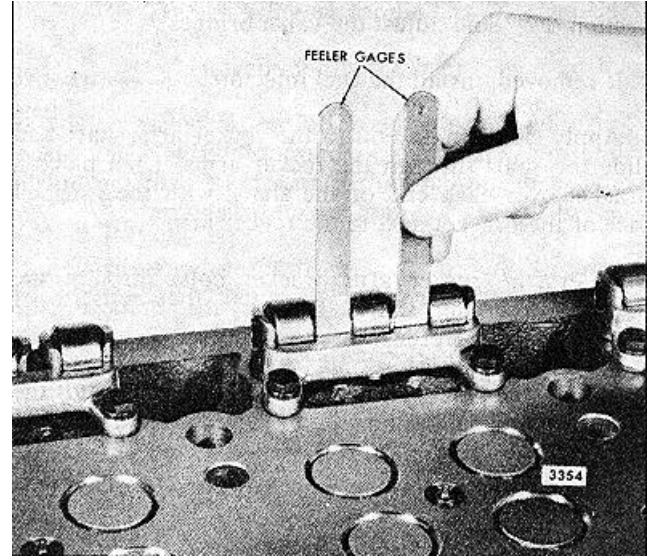
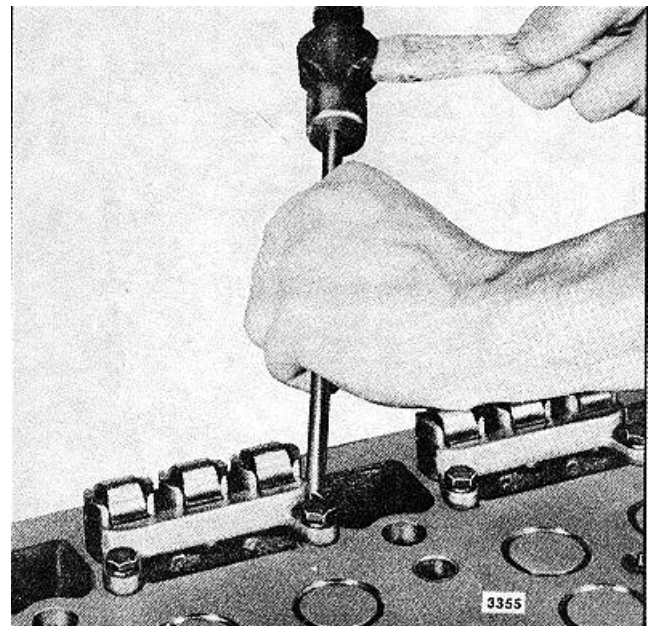

FIG. 11 Checking Cam Follower to Guide Clearance
FIG. 12 - Adjusting Cam Follower Guide
4. Attach the follower guide to the cylinder head to hold the group of three cam followers in place. Tighten the guide bolts to 12-15 lb-ft (16-20 Nm) torque. Check to be sure there is at least .005" clearance between the cam follower legs and the cam follower guide (Fig. 11). If there is insufficient clearance, loosen the guide bolts slightly and tap each corner of the guide with a brass rod (Fig. 12). Then retighten the bolts to the specified torque.